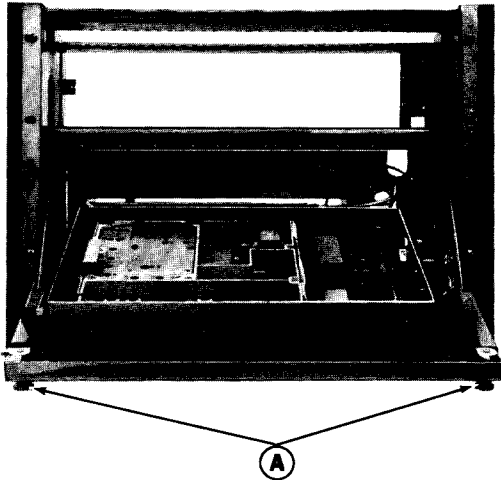

Figure 4 - Access to Exciter
| Figure 4 - Access to Exciter (Front View) | 4 |
1. Turn the two latching knobs (A) counterclockwise to unlatch the Radio Panel Front Door. Refer to Figure 4.